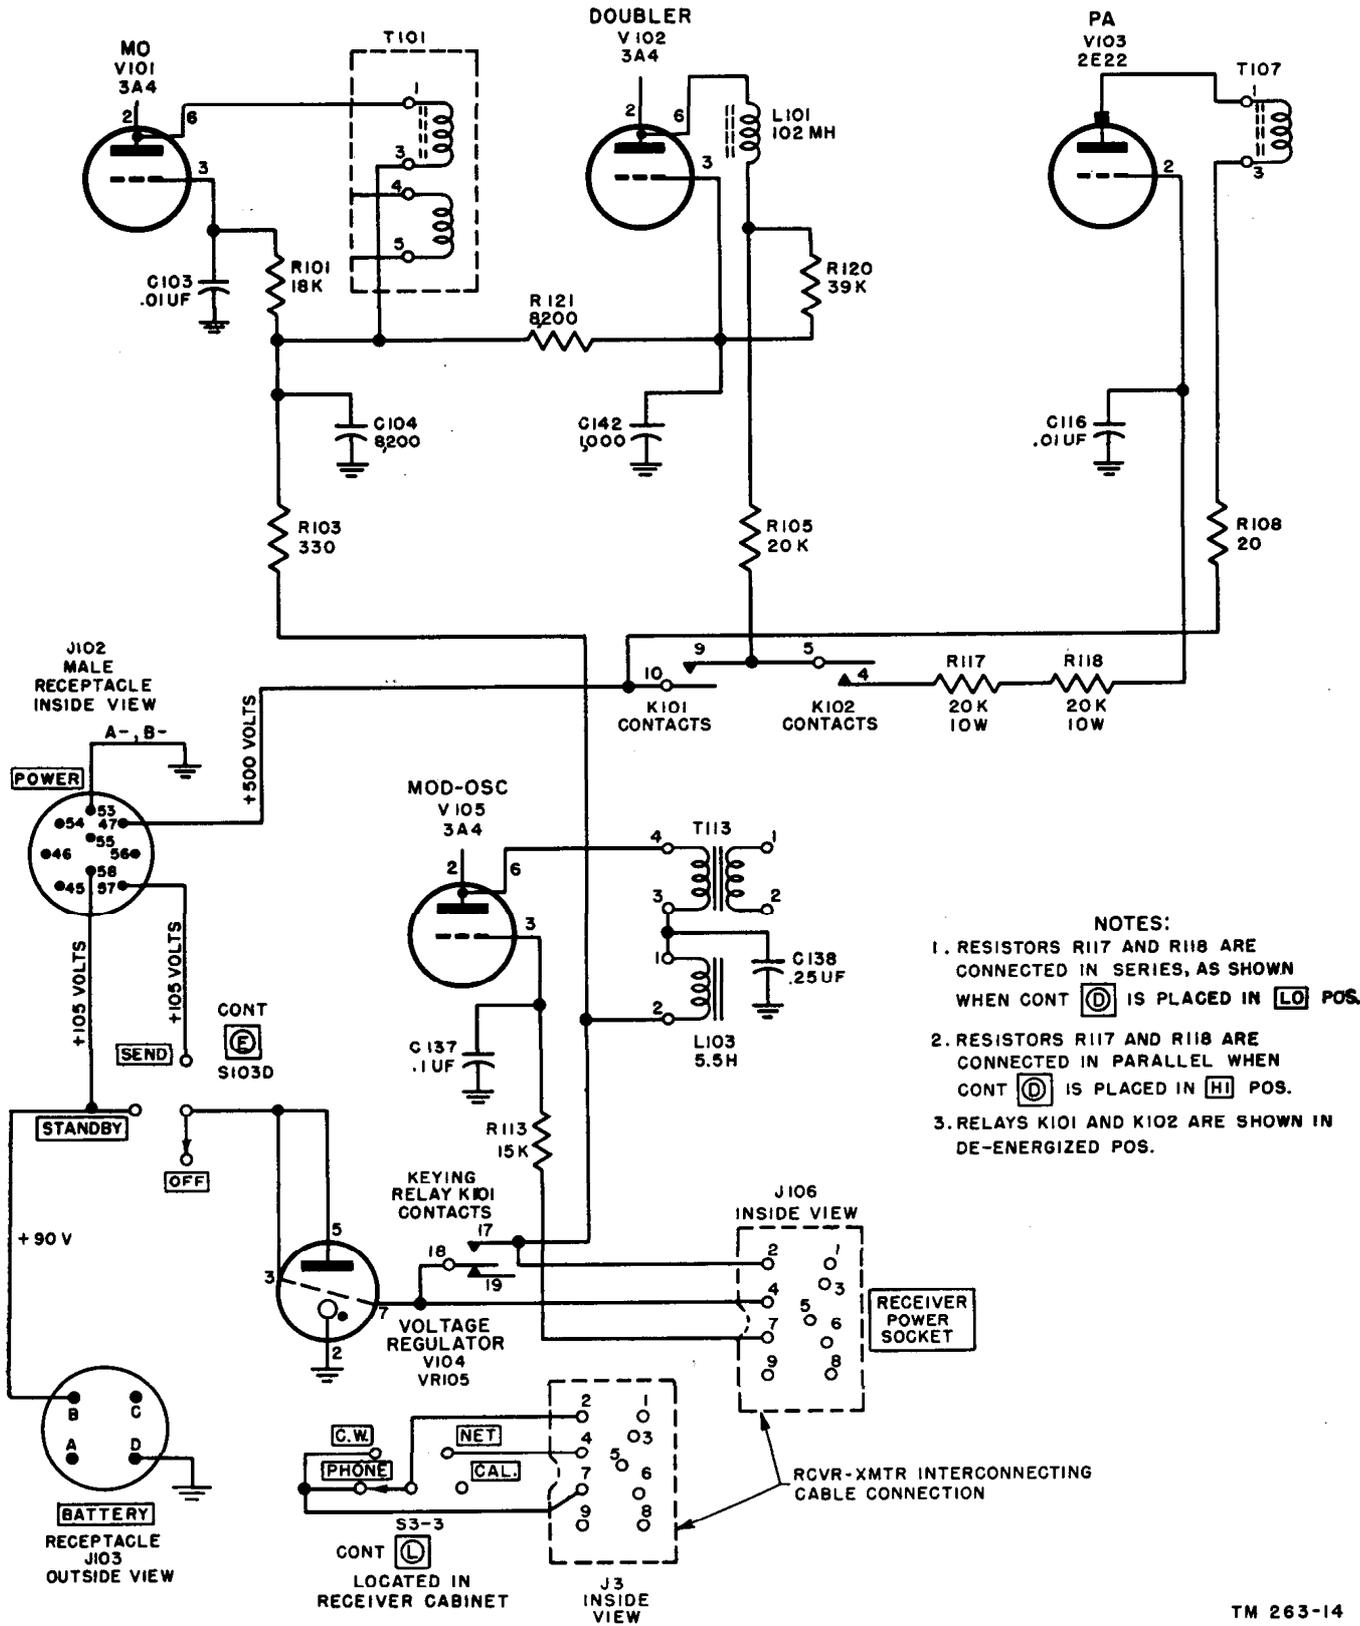

Figure 91. Transmitter plate and screen circuits.
voltage of the modulator tube, and, at the same time, it interrupts the plate circuit of the master oscillator and the screen circuit of the power amplifier (fig. 91). The relay thus keys the sidetone oscillator in synchronism with the transmitted signals.
## 117. Transmitter Plate and Screen Circuits (fig. 91)
### 118. Net Operation (fig. 91)
f. Plate and screen voltages are applied to the master oscillator and doubler stages (fig. 91) are controlled by K101. Contacts 17 and 18 close, connecting the plates and screens to the power line through pin 7 of voltage regulator tube V104 (fig. 67).
d. In the SEND position of control Ⓢ (fig. 94), the +105 volts is fed from pin 57 on J102, through switch section S103D, to VR104, and then to the plates and screens of all of the tubes in the receiver-transmitter except pa tube V103 (fig. 91). When control Ⓢ is in the STANDBY position, pin 33 on 240 is not connected to anything, therefore low voltage (+105 volts) cannot be fed to the receiver-transmitter. To use the generator power supply when control Ⓢ is in the STANDBY position, Battery BA-48 must be used also.